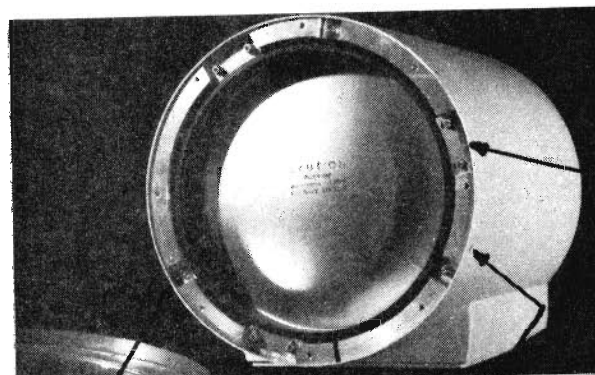

Fig.4 , pressure ring fastened at the side of the shield. see also the centre-plates and the adjustment screws.
- (1) execute paragraph 3.1.
- (2) disconnect BGC1: X6, X7, X8 and X9 from the HT-unit and the earth lead from BA1
- (3) remove the basic-lens from the II-tube (3 screws)
- (4) remove the X-ray grid (4 screws)
- (5) remove the finishing ring from the shield (4 screws)
- (6) remove the ring with implosion plate
- (7) loosen the: 3 centre-plates (2 screws each) on the pressure ring, Fig.4 page 26
- (13) mount the tube to the shield with 3 bolts, see Fig.4
- (14) position the pressure ring in the shield so that the opening of the ring is in the middle of the side box